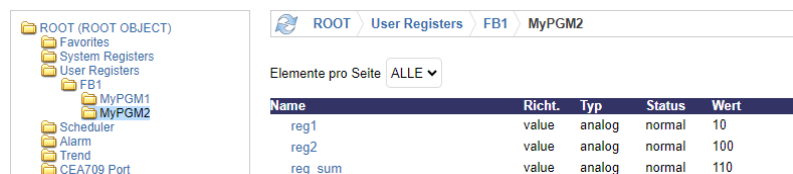

Figure 66: Resulting data points on the device.
25. The device will reboot and come up with the new program. Open the Web UI on the device and verify the add function as shown in Figure 66. Note, that two folders have been generated for the two 61131 program instances (MyPGM1, MyPGM2).